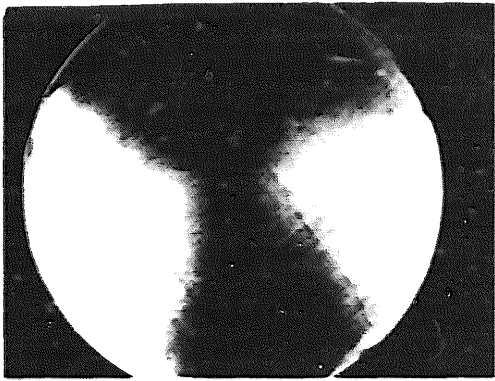

Figure 1-10. Fade positive which occurs after Presentation Sector is left in VIEW for 2 to 4 minutes
- h. **FADE POSITIVE** - Appears as random green areas on a dark background in **MAX**, **PERSISTENCE**. See Figure 1-10.